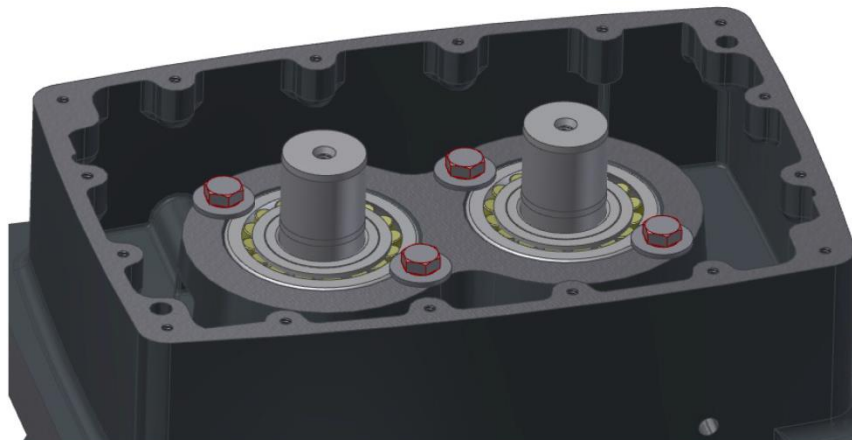

FIGURE 7-5 – INSTALL BEARING RETAINING SCREWS
26. Install the 4 bearing retaining screws (10) and washers (12) into the gear end of the air cylinder. The screws should have a loctite patch. Tighten the screws to 38 ft-lb. See FIGURE 7-5
29. Place the air cylinder vertically in a hydraulic press with the drive end on top. The bottom of the idler rotor shaft must be in contact with the bed of the press. The bottom of the drive rotor shaft must not be in contact with the bed of the press. The blower air cylinder must be cradled on its sides but must not be restrained in the vertical direction. Place a roller bearing (58) over the rotor shaft with the numbers on the bearing facing up. Press the bearing onto the idler rotor shaft using the hydraulic press and the bearing driver tool.